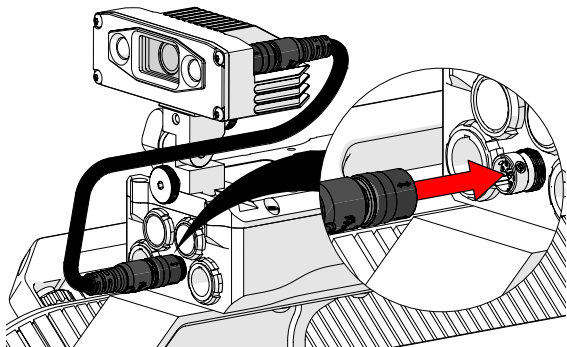

Fig. 30 - Connect camera to the crawler
3. Connect the camera cable to the crawler's CTRL connector (Fig. 30).